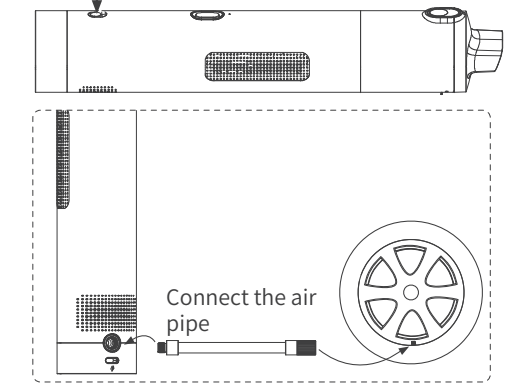

Figure 1
- ① Select air inflation or dust collection (select the air inflation).
- ② Select scenario of air inflation: The tire pressure can be preset depending on the desired pressure.
- ③ Connect the air pipe (as shown in Figure 1).
- ④ Press twice to start air inflation.
- ⑤ Air inflation stops when the pressure reaches the preset value.